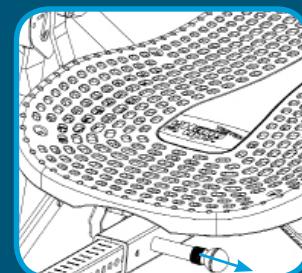

Figure 2
- Pull out the height selector locking pin with your right hand while sliding the Main Shaft with your left (Figure 2).